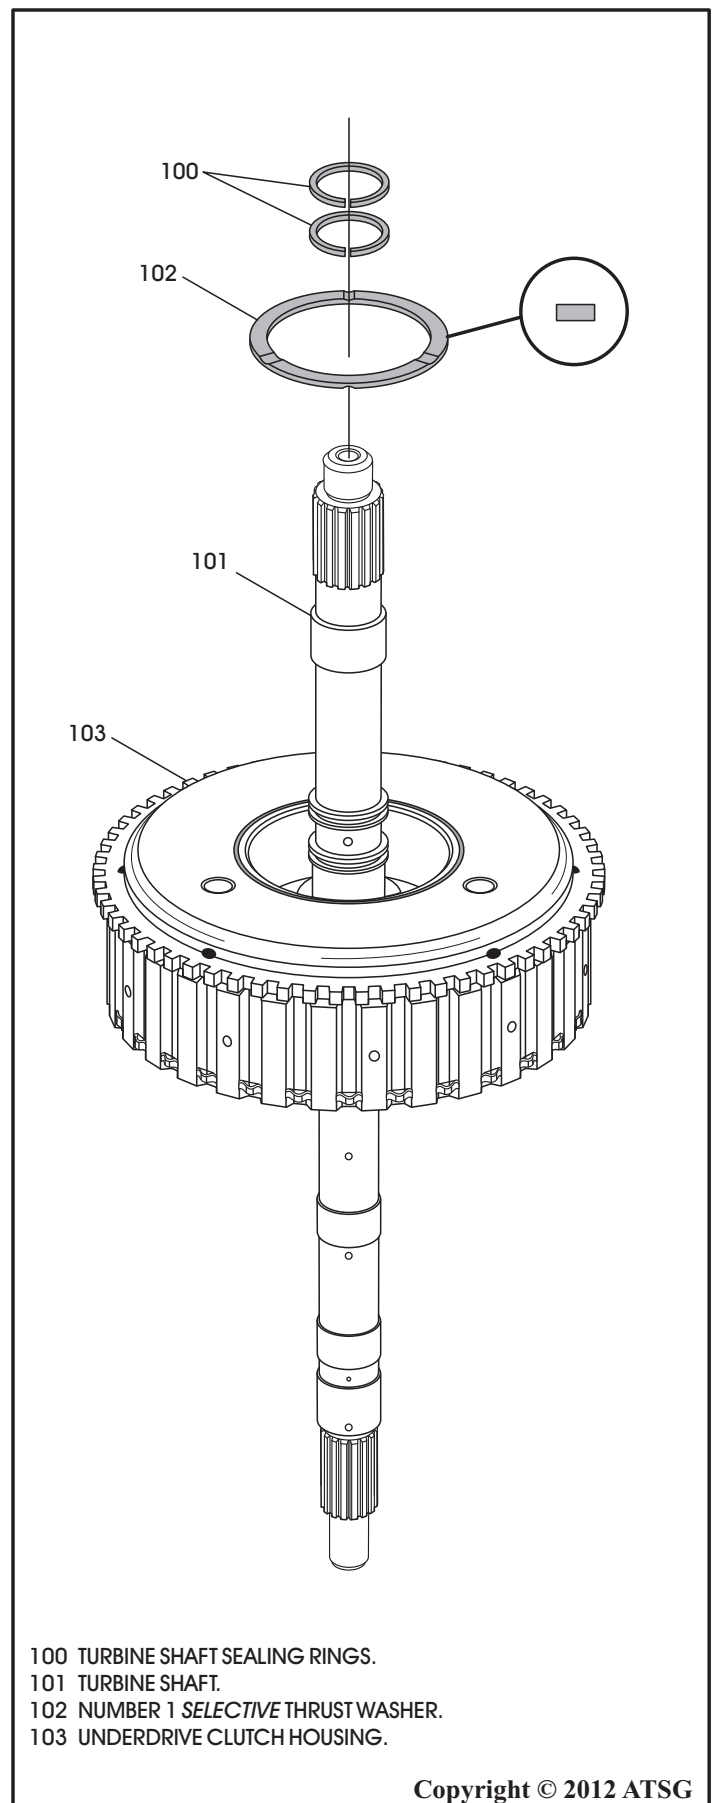

Figure 155
20. Install the number 1 thrust washer, as shown in Figure 155, and retain with Trans-Jel®.
21. Install two new turbine shaft "butt-cut" sealing rings, as shown in Figure 155, and ensure rotation.